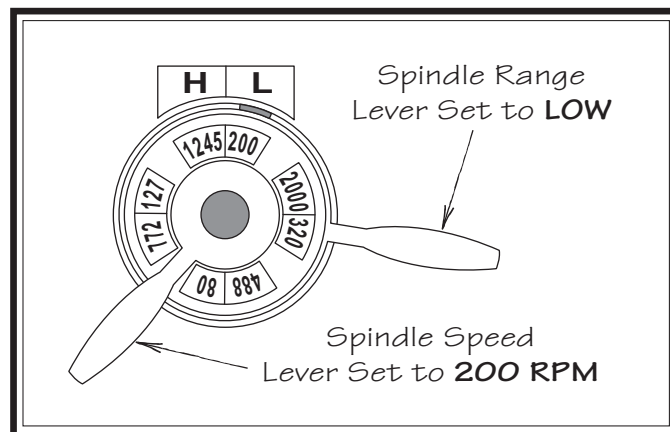

Figure 67. Setting the spindle speed to 200 RPM.
2. Move the spindle range lever to the right so that the arrow on top of its hub points toward the **L** (low) label (see the illustrated in **Figure 67**).